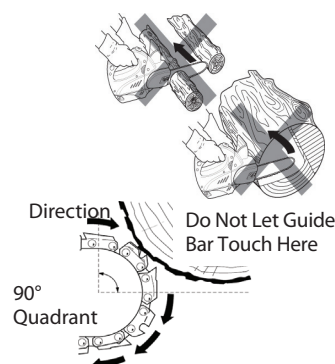

Figure 1 - Kickback Hazard Example: Do Not Let Nose of Guide Bar Touch Object While Chain is Moving
- Do not let guide bar nose touch anything when chain is moving (see Figure 1).